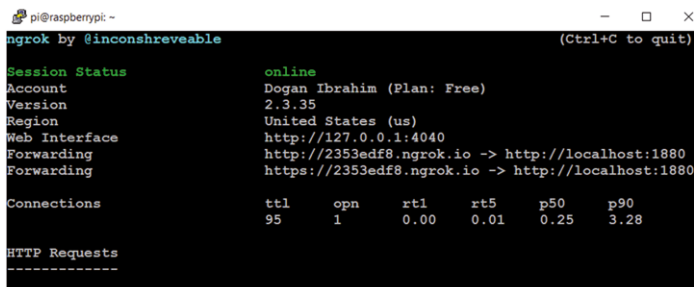

Figure 16.4 Raspberry Pi screen
- You will be presented with a screen similar to the one shown in Figure 16.4. Here we want the part that starts with **Forwarding** and **https**, as this is the address we will be entering into our web browser, i.e.
- You can now access Node-RED remotely by entering the following address into your web browser. Note that you must not close the ngrok screen (Figure 16.4) while accessing Node-RED remotely: